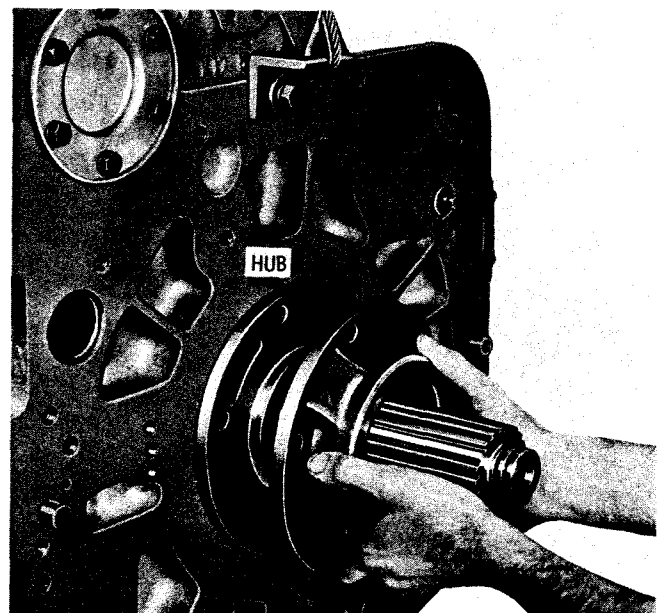

Fig. 7-65. Installing oil transfer hub (CT, CLT, VCLT)
(3) Install the oil transfer hub and secure it with five 1/2-13 x 1 1/4-inch bolts and lockwashers (fig. 7-65). Tighten the bolts to 67 to 80 pound feet torque.